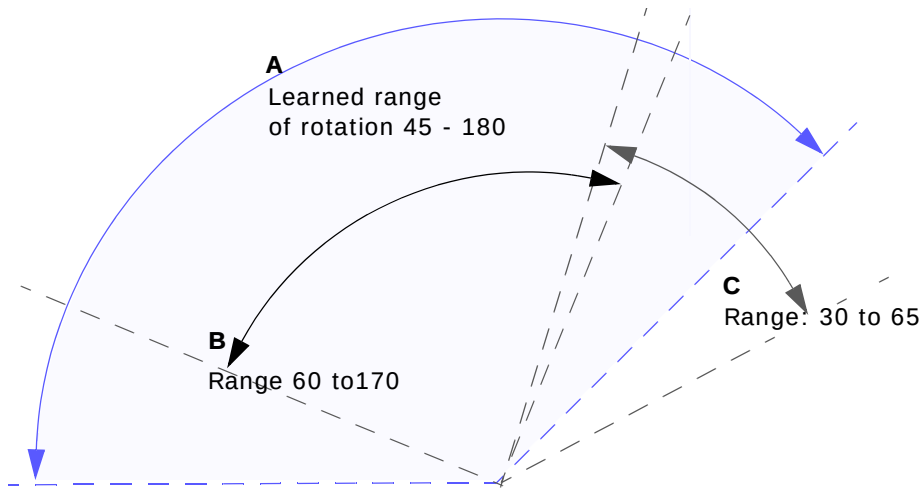

Figure 155 Learned Range of Rotation
- In the example in Figure 155, range “**B**” will be set without a incurring learn. Because range “**C**” lies partially outside the learned range “**A**”, the Locator will automatically learn the new range “**C**” and discard the range “**A**” settings.